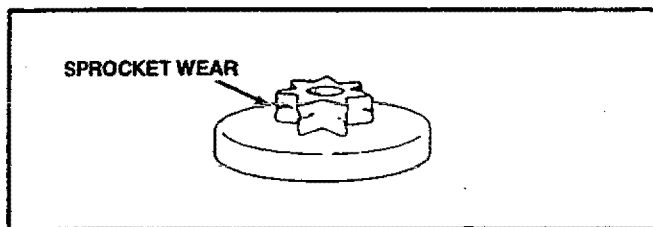

Figure 42
- Inspect the sprocket regularly for wear. A worn sprocket will make the chain run erratically and will shorten the life of the bar and chain. Figure 42.